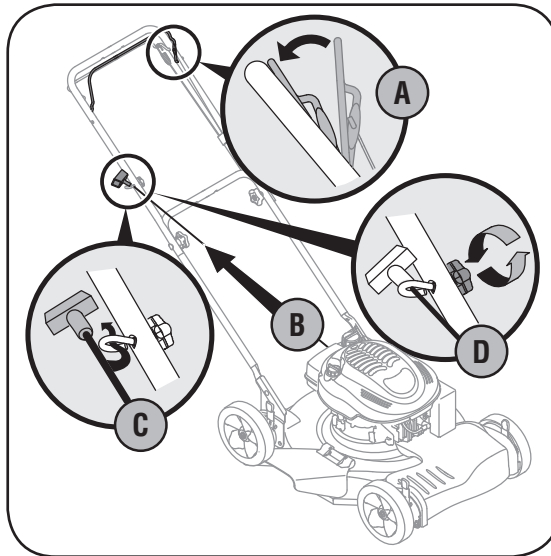

Figure 3-5: Pull recoil starter through rope guide and tighten.
6. Follow the steps below to secure the recoil starter, Figure 3-5.